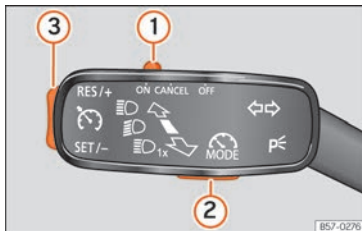

Fig. 229 On the left of the steering column: control and buttons to operate the speed limiter.
»» Fig. 229 ① of the turn signal lever into position **CANCEL** or the third lever into pressure point **CANCEL** or press button ② on any lever.